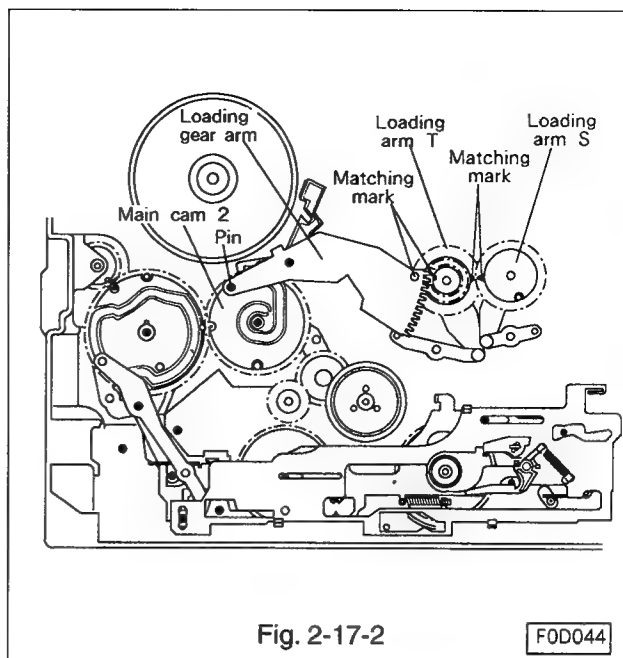

Fig. 2-17-2
- E. Remove the grip ring and remove the loading gear arm.(Refer to Fig. 2-17-2.)
- F. Turn the loading arm S and T to the loading position.(Refer to Fig. 2-17-2.)
- B. If the takeup tape guide is replaced, install the loading arm T first.(Refer to Fig. 2-17-2.)
- C. Install the loading arm T so that the matching mark of the loading arm S is lined with the matching mark of the loading arm T as illustrated in Fig. 2-17-2.